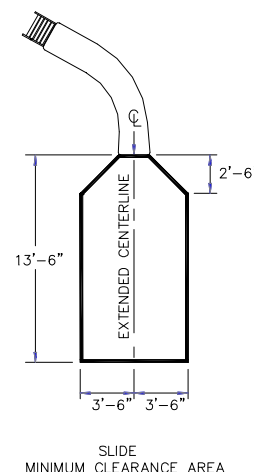

FIGURE 34
- A. The minimum clearance distance on either side of the extended centerline of the slide runway shall not be less than three feet six inches (3'-6") at a point no less than two feet six inches (2'-6") from the exit lip of the slide and extending a distance of thirteen feet six inches (13'-6") in front of the slide as shown in FIGURE 34.